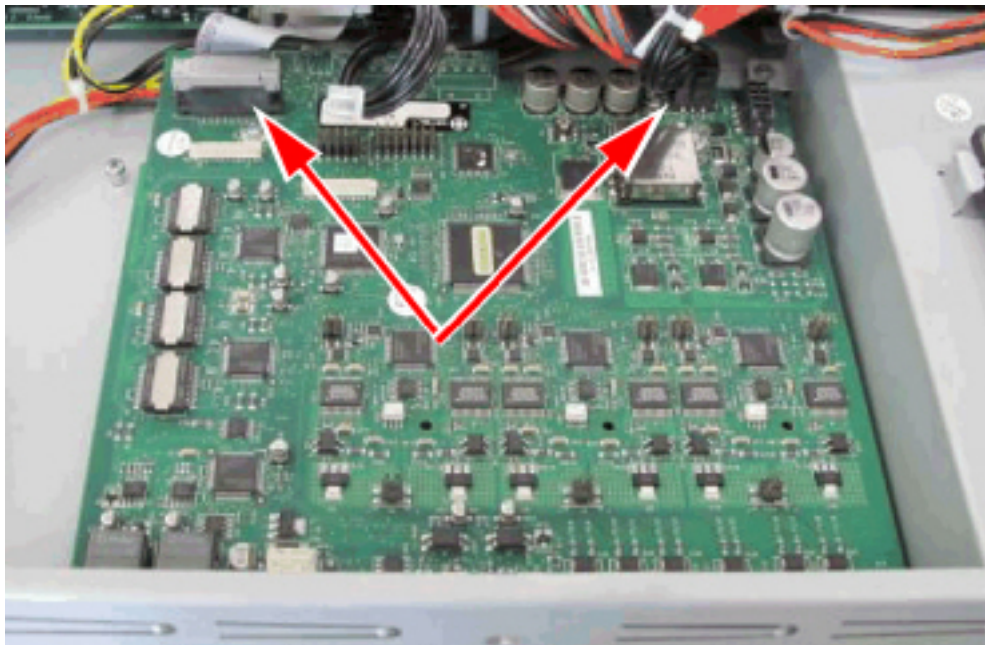

Figure 7.22: AMB - Disconnect Cables
3. Remove the AMB as follows referring to Figure 7.22: